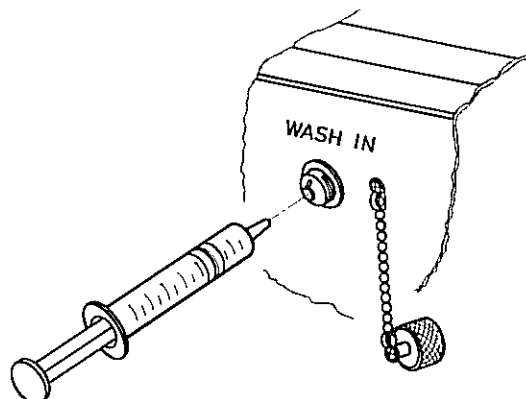

Figure 10 Cleaning the Measuring Chamber
- b) Open the wash circuit by unscrewing the WASH CONNECTOR cap. (See Figure 10.) The wash circuit is located in the rear of the unit.